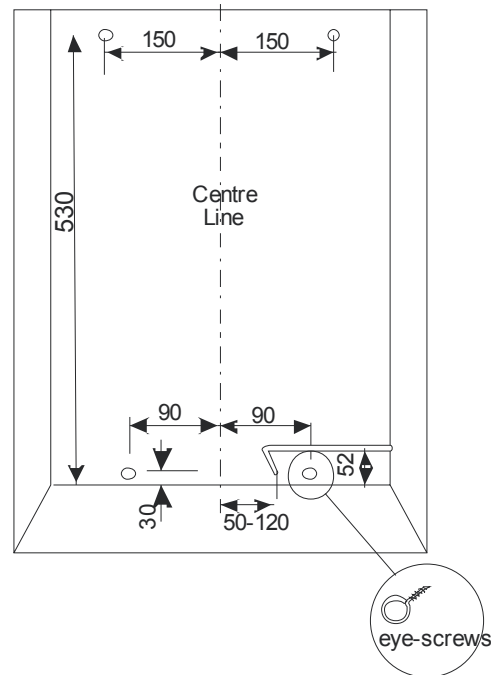

Figure 59
2. Mark out, drill, plug and fit the four cable guide brackets onto the rear wall of the fireplace opening as shown in **Figure 59**. Use 4.5mm masonry bit if drilling into masonry. Use 3.5mm bit if fitting the fire into metal flue box.
4. Install the gas supply within the opening using rigid or semi-rigid tubing allowing for rear entry into the fire box (See **Figure 59**).